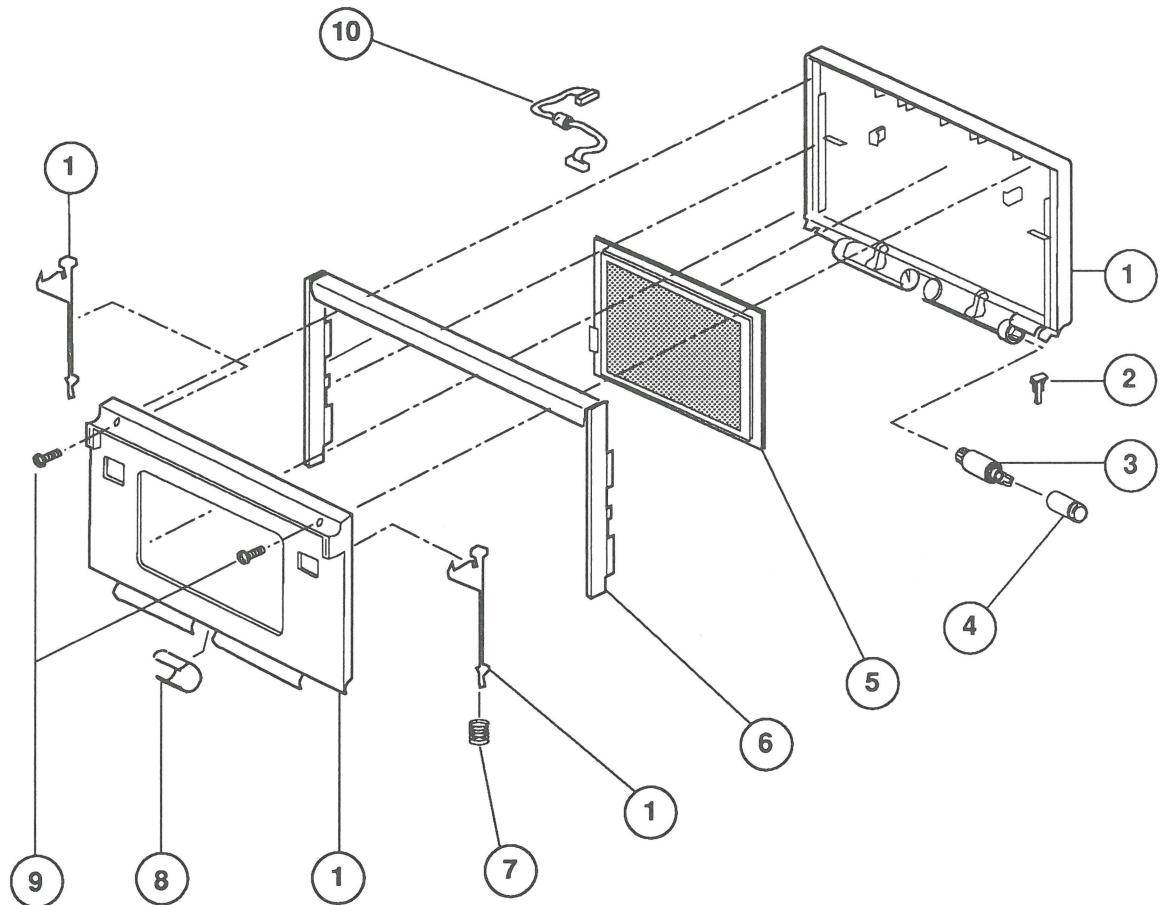

FIGURE 2
- IPL.5 Nonbacklit Display Assembly (Figure 2)
NONBACKLIT DISPLAY ASSEMBLY (Figure 2)